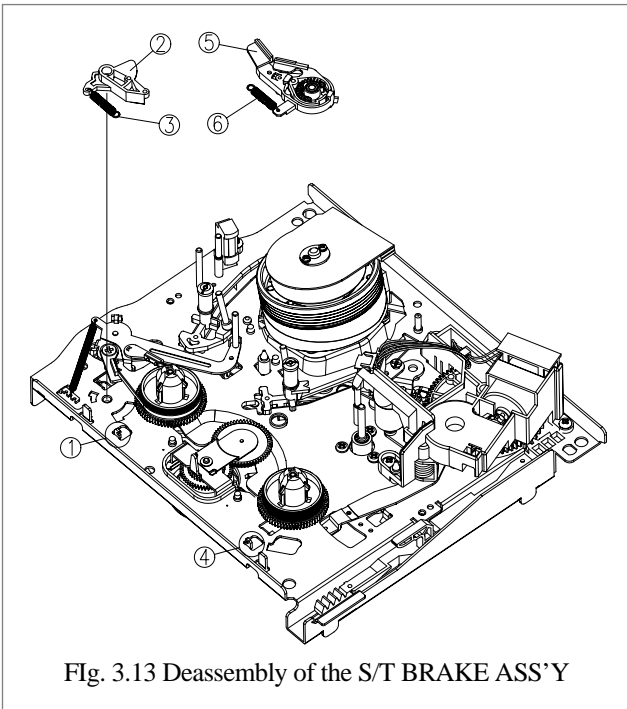

Fig. 3.13 Deassembly of the S/T BRAKE ASS'Y
8. Deassembly of the S/T BRAKE ASS'Y (Fig. 3.13)
- Unhook the S BRAKE SPRING ③ from the MAIN-BASE HOOK ①.
- Remove the S BRAKE Ass'y ② from the mainbase.
- Remove the T BRAKE SPRING ⑥ from the MAIN-BASE HOOK ④.
- Remove the T BRAKE Ass'y ⑤.